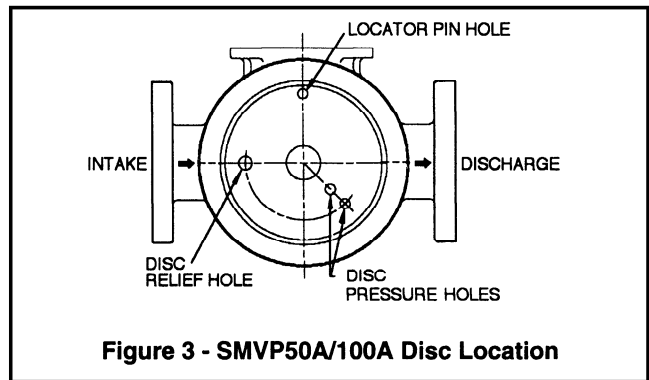

Figure 3 - SMVP50A/100A Disc Location
1. Begin assembly on the **outboard** side of the pump first, by laying the pump cylinder (12) on a flat surface with the intake port to the LEFT.
2. Install the disc (71) on the outboard end of the cylinder with the disc holes positioned as shown in Figures 3 & 4. Use the dowel locator pin hole to locate the disc.